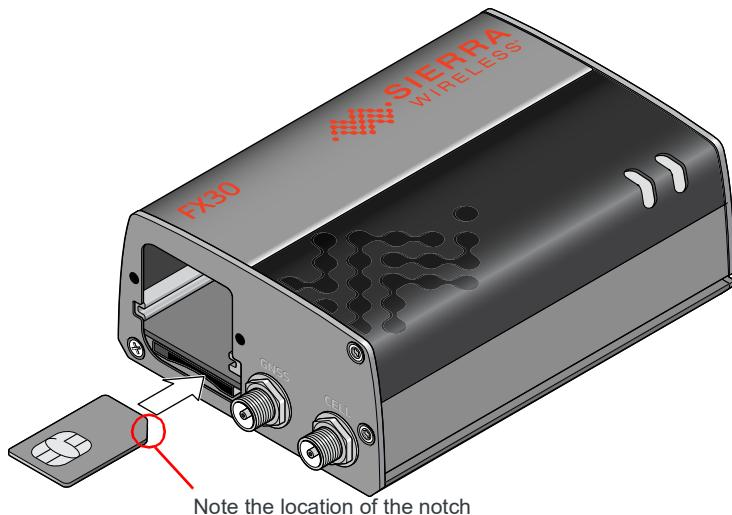

Figure 2-1: Installing the SIM card
9. Orient the SIM card, as shown in Figure 2-1. The gold contacts on the SIM card face up.